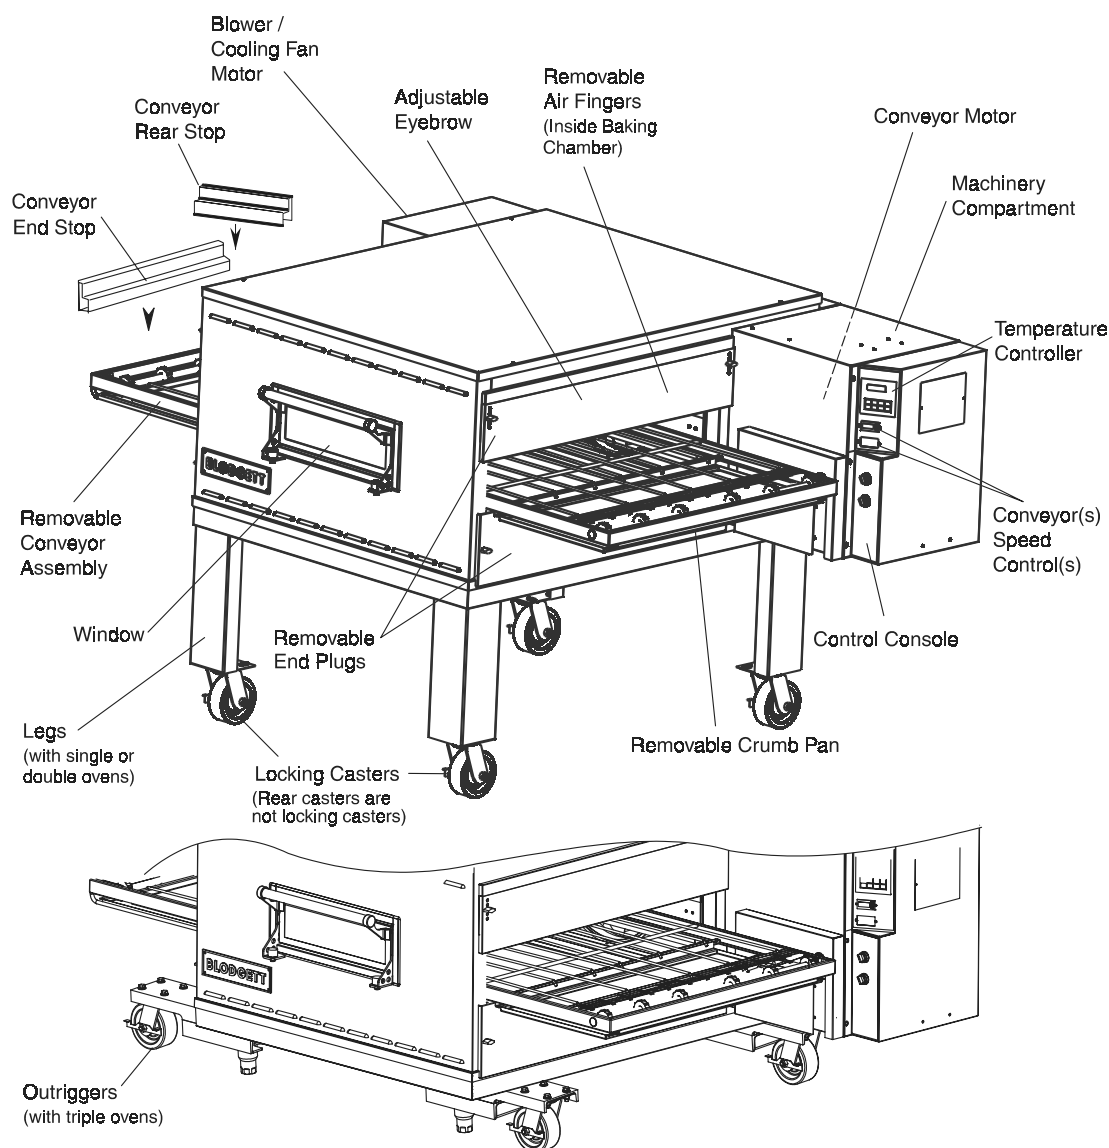

Figure 4-3.
3. Remove the conveyor end stop and the conveyor rear stop (Figure 4-3).